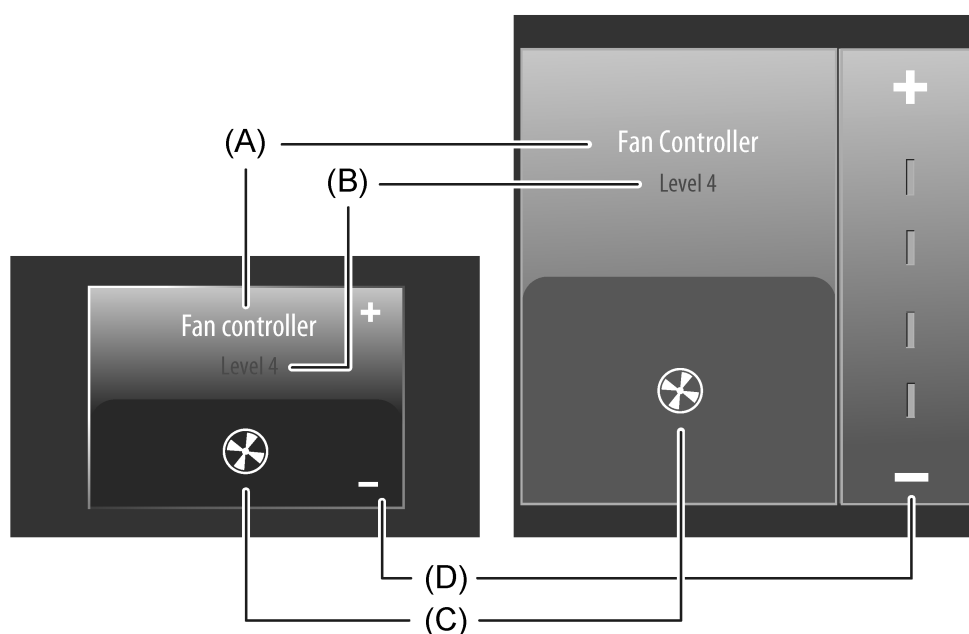

Figure 48: Example of an operating and display element of the channel function "Fan controller, internal"
The display area contains different display elements (figure 48) that are influenced by ETS parameters. A name can be assigned to each KNX channel in the ETS (A). This text name is centred in the display element for display whereby controllable KNX functions are identified for the user (e.g. "Fan controller").